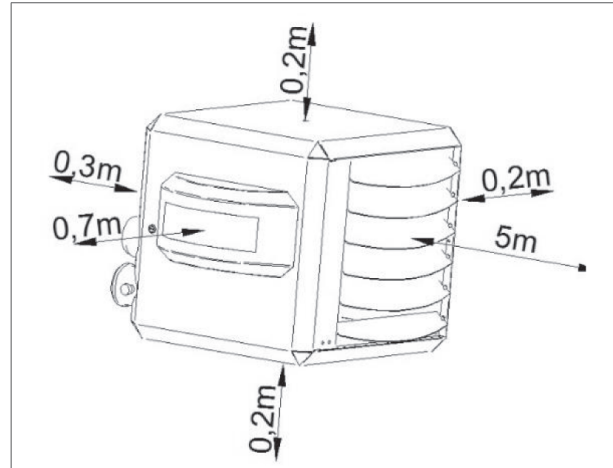

Figure 6 - Minimum clearances around the air heater
- Keep sufficient distance between the heater and any obstructions. This is both for safety reasons and to allow access for service and maintenance (figure 6).